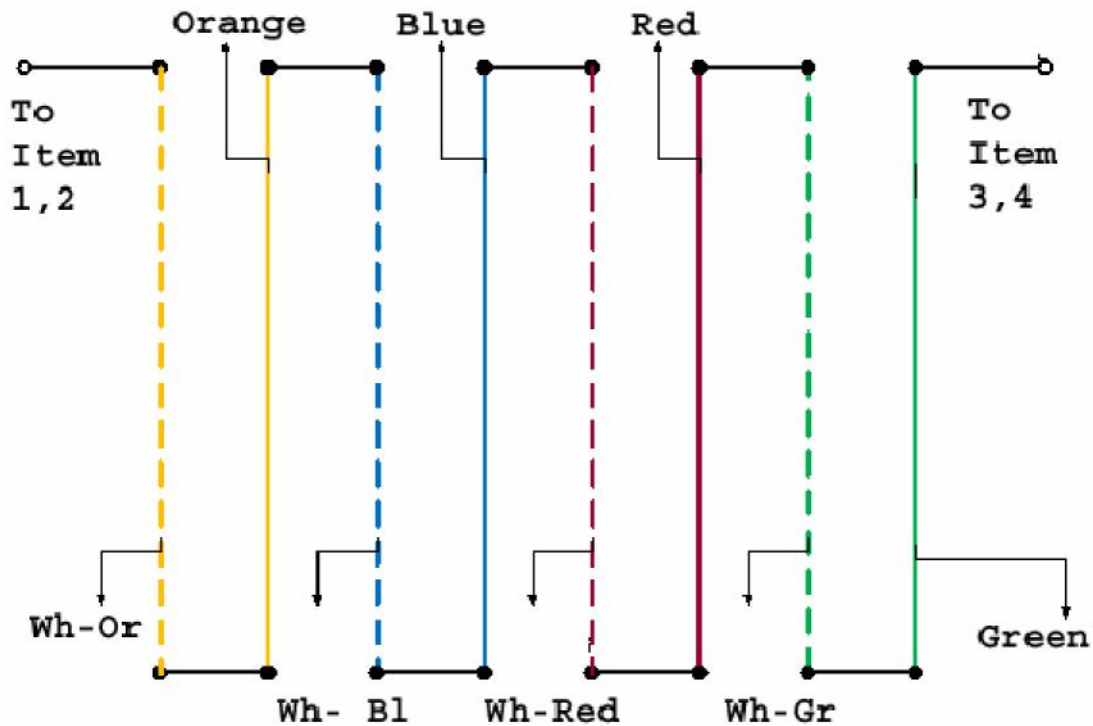

Figure 2
Antenna is lengthened with help of coils item 6 and item 7. The coils made from length of an Ethernet Cable, 17 meter each. RA3ARN used Ethernet Cable with mark on it: NEXANS UTP KATEGORY 5E TIA 568-5EC VERIFIED №11168 4PR 24AWG SU3505. Almost any 4- pair Ethernet Cable may be used for the coils. Figure 2 shows diagram of the coil. All twisted pairs are connected in serial. Then the cable was coiled in a hank of 40- cm diameter. Soldered ends were protected from weather conditions with help of a thermo- shrink tube.